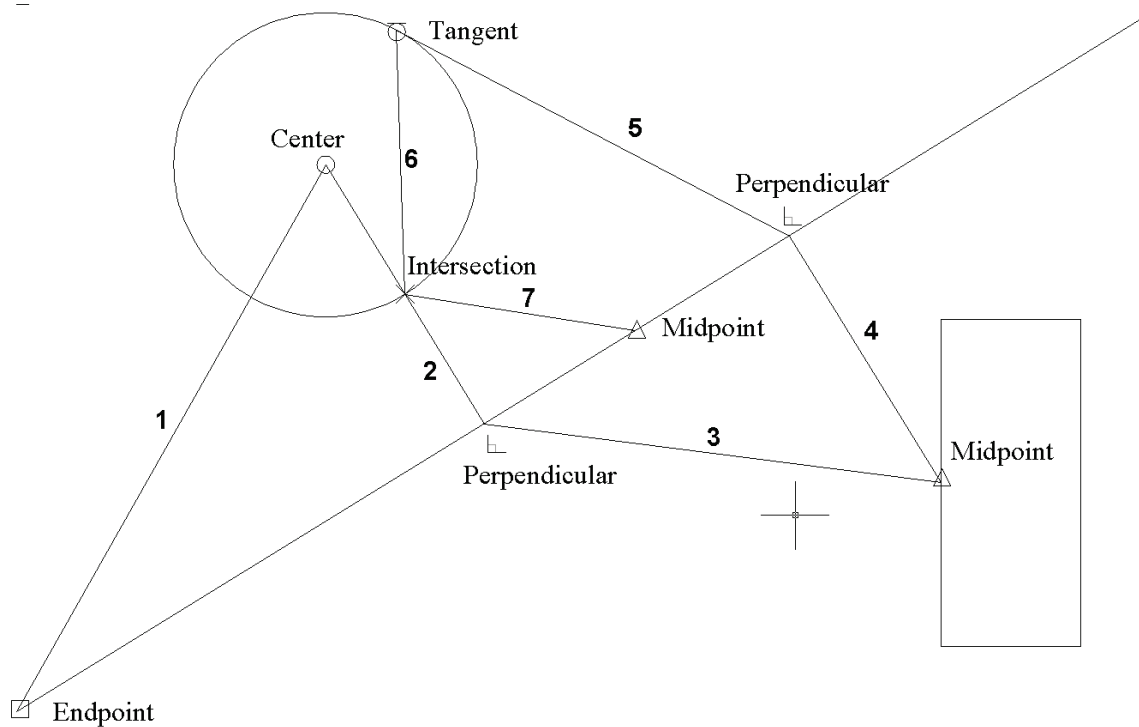

FIGURE 3-2.5 Lines to draw and Snap to use
12. Draw the additional lines shown in **Figure 3-2.5** using the appropriate *Object Snap*, changing the selected Snaps as required to select the required points.